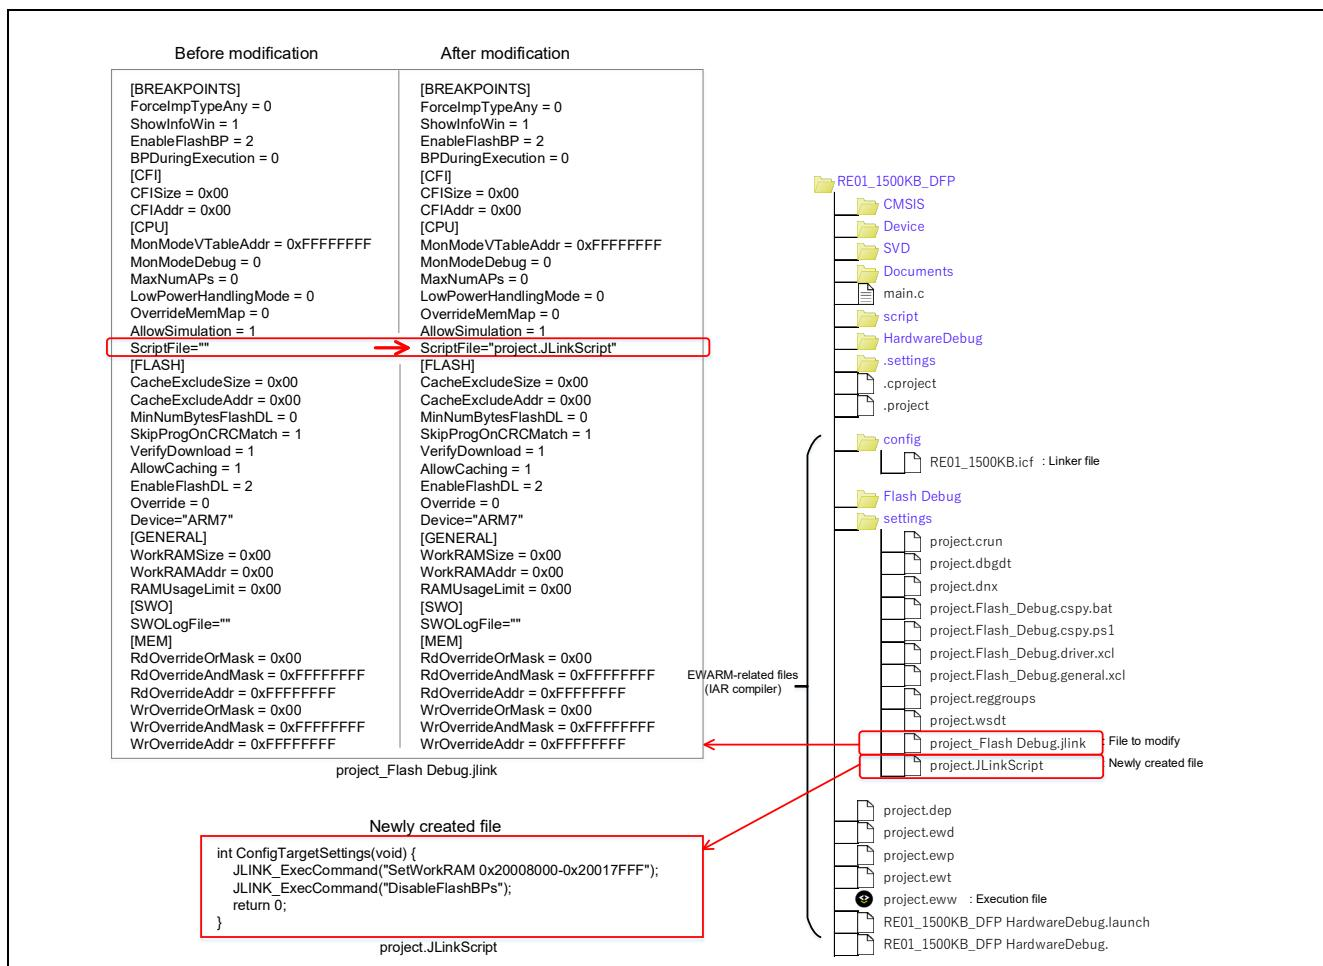

Figure 9-5 Example of Prohibition of Setting Software Breakpoints in Internal Flash Memory Regions (EWARM)
- Open the project using EWARM, edit the file [project name]\_Flash Debug.jlink that is generated upon initially starting J-Link OB referring to Figure 9-5, and newly create a script file with a desired filename.